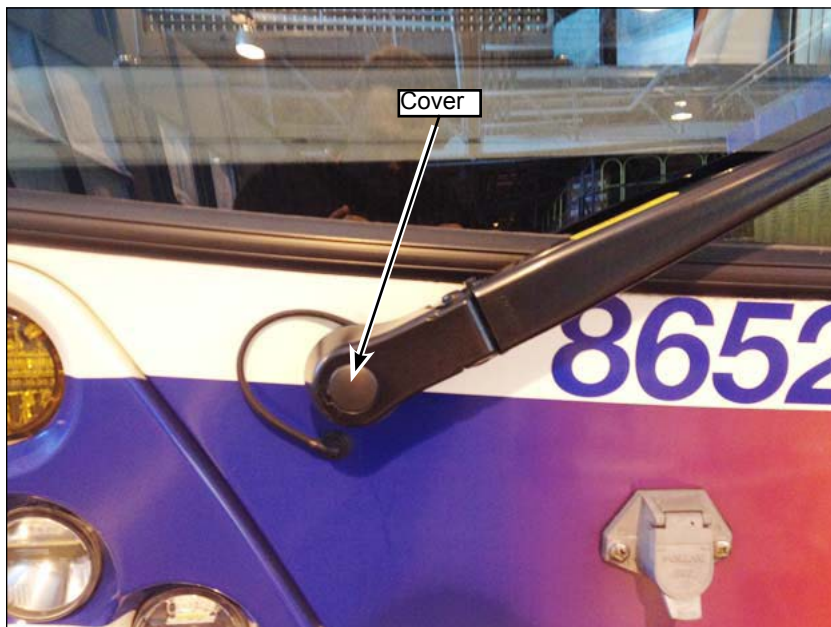

Figure 37 - Install Wiper Hardware and Washer Lines
- 1.38. Reinstall the wiper hardware covers and washer lines (see Figure 37).